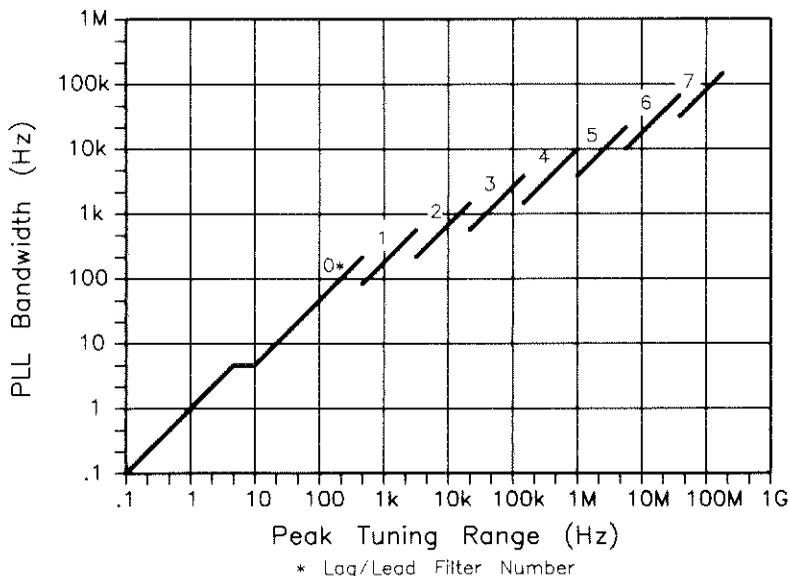

Figure 8-3. Phase Lock Loop Bandwidth as a Function of the Peak Tuning Range of the Measurement.
4	<p data-bbox="249 236 731 264">Unable to close the Phase Lock Loop.</p> <p data-bbox="249 343 1241 422">Action: There are several possible conditions that can prevent the HP 3048A from being able to close the phase lock loop. These conditions and the actions recommended for verifying them are listed below in the order of probable cause.</p> <ol data-bbox="267 464 1241 1398" style="list-style-type: none"><li data-bbox="267 464 1241 568">1. The system is not able to tune the beatnote to within the Capture Range set for the measurement. This possibility can be minimized by carefully following the Checking the Beatnote procedure provided in each measurement example in Chapter 3 of the Operating Manual. If an oscilloscope is available, you will find that connecting the scope to the AUX MONITOR port on the HP 11848A allows you to continuously monitor the beatnote throughout the measurement. By aborting this measurement and reinitiating a New Measurement, you can observe the beatnote as the HP 3048A attempts to close the phase lock loop (a message will appear in the HP 3048A's display to let you know when this is happening). The beatnote frequency, as seen on the scope, should decrease and then go to zero (dc). Watching the beatnote's response as the system attempts to adjust it to 0 Hz can provide clues about tuning problems that may exist.<li data-bbox="267 794 1241 874">2. The beatnote drifted beyond the system's Capture Range before the HP 3048A was able to acquire lock. For further information on verifying the frequency stability of the beatnote, refer to Tracking Frequency Drift in Chapter 3 of the Operating Manual.<li data-bbox="267 879 1241 1007">3. The VCO Tuning Constant entered for the measurement was not within a factor of 2 of the actual Tuning Constant, and the HP 3048A was not configured to measure the Tuning Constant for verification. For details on verifying the Tuning Constant of your VCO, refer to Estimating the Tuning Constant in Chapter 3 of the Operating Manual.<li data-bbox="267 1018 1241 1121">4. The Peak Tuning Range set for the measurement is > 10 MHz and is causing the loop dynamics to be non-linear. When this condition exists, the non-linear response of the beatnote as the system attempts to close the phase lock loop can often be seen on an oscilloscope connected to the AUX MONITOR port on the HP 11848A.<li data-bbox="267 1129 1241 1209">5. One of the sources is being injection locked as the HP 3048A is tuning the beatnote to 0 Hz. (Refer to Minimizing Injection Locking in Chapter 3 of the Operating Manual for recommended actions.)<li data-bbox="267 1217 1241 1398">6. The modulation bandwidth of the VCO source's tuning port is not wide enough to provide adequate phase margin for the system's phase lock loop (PLL). The VCO's modulation bandwidth (the upper frequency limit of the VCO's tuning port) should be greater than approximately ten times the PLL bandwidth set for the measurement. PLL bandwidth is shown as a function of the Peak Tuning Range (PTR) in Figure 8-3. (The PTR for the measurement is determined by multiplying the VCO's Tuning Constant by its Voltage Tuning Range.)
- Decrease the PLL bandwidth to 1/10 the VCO's modulation bandwidth by decreasing the Peak Tuning Range (PTR) for the measurement. Use Figure 8-3 to determine the PTR required. The PTR can be reduced by decreasing the Tuning Voltage Range value entered. Divide the required PTR by the VCO's Tuning Constant to determine the appropriate Voltage Tuning Range to enter. (Keep in mind that reducing the PTR limits the HP 3048A's Frequency Drift Tracking Range for the measurement. For further information about changing the PTR, refer to *Changing the PTR* in Chapter 3 of the Operating Manual.)